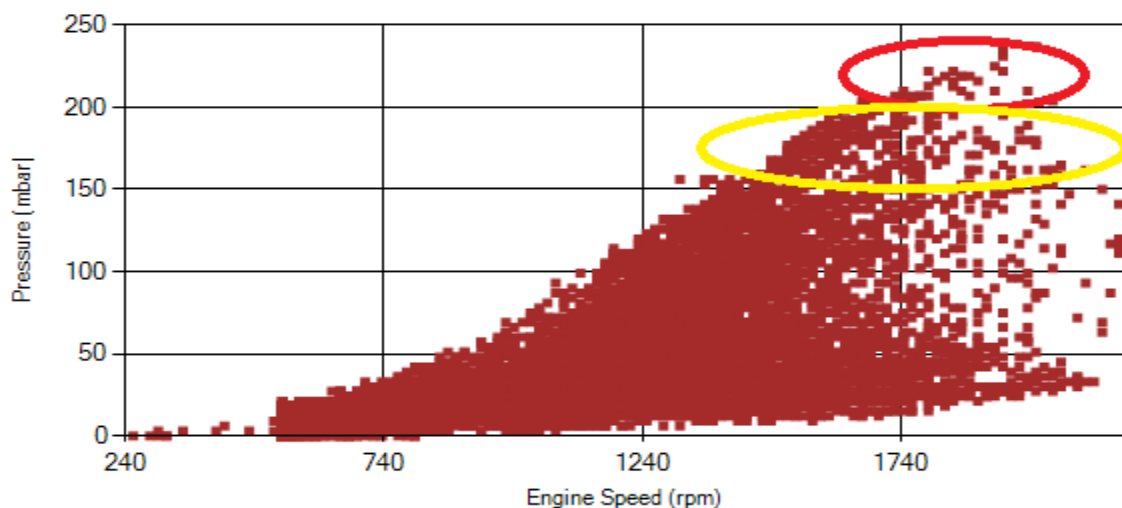

Figure 13- Pressure against engine speed
**Notice:** Red alarm (pressure > 200 mbar) and yellow alarm (200 > pressure > 150) ranges were indicated in figure 13.